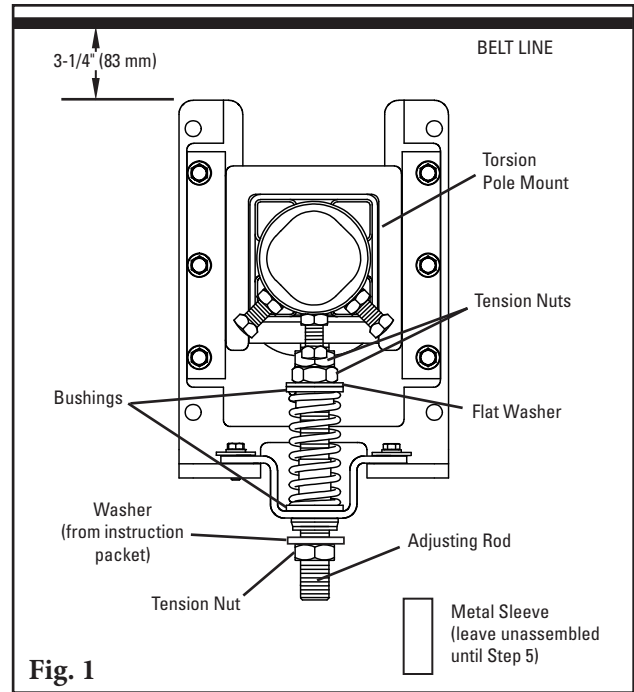

Fig. 1
- 1. Reconfigure the standard pull-up tensioner to the push-up style.** Remove the 3 tension nuts, the flat washer, 2 bushings, the spring, the sleeve and the hat bracket; reassemble (Fig. 1) with 2 tension nuts, the flat washer, 2 bushings, the spring and the hat bracket on the upper end of the adjusting rod. Add washer (from instruction packet) and 3rd tension nut to bottom of adjusting rod.
- 2. Install the tensioner mounting bases.** Mount the bases to the structure or chute so that the tops of the base legs are 3-1/4" (83 mm) below the belt (Fig. 1).